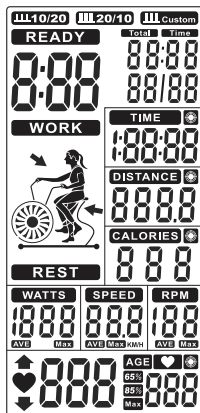
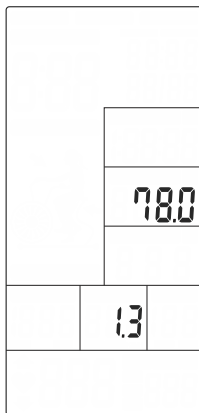
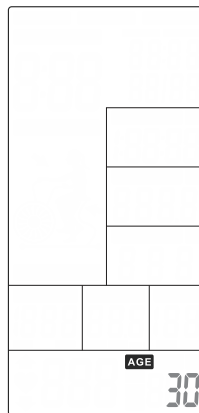

FIGURE 1
FIGURE 2
FIGURE 3
1. When the monitor is turned ON, the screen displays for 2s (Figure 1) and a long beep sound, then displays the wheel diameter in the DIST area for 1s (Figure 2). Then enter AGE setup mode, AGE flashes to be set (Figure 3). Press UP or DOWN to set the age and press ENTER to confirm, then the monitor goes into standby mode.